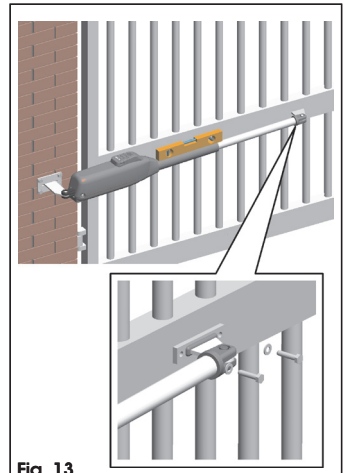

Fig. 13
**If the leaf structure does not allow a bracket welding, the suitable bracket to screw (optional) can be used together with suitable fastening systems (Fig. 13). Then carry out the same operations as prescribed for the bracket to weld.**